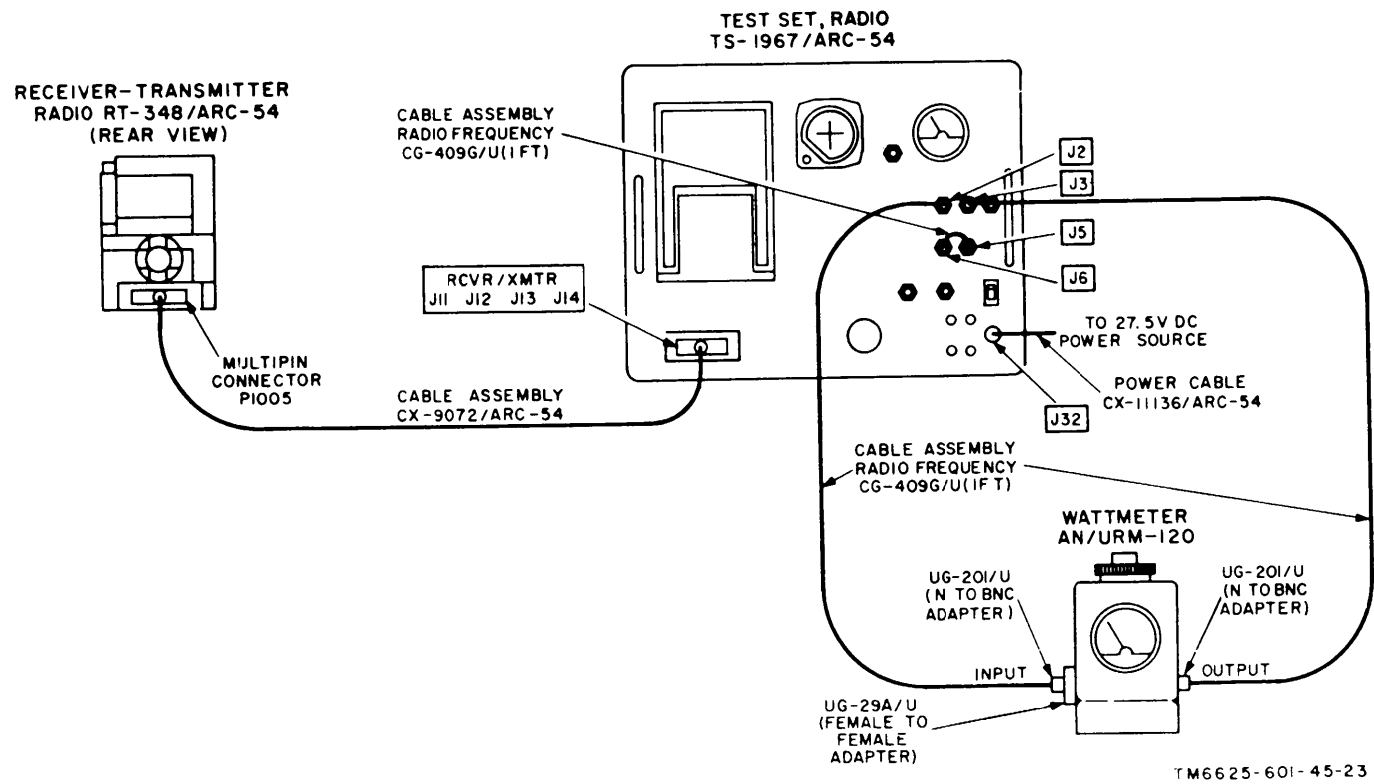

Figure 3-3. Rf power meter adjustment bench test setup.
(1) Set FREQUENCY SELECTOR-MC switch S3 to 40 position.
(2) Set FREQUENCY SELECTOR-MC switch S4 to 0 position.
(3) Set FREQUENCY SELECTOR-MC switch S5 to .00 position.
(4) Set TEST FUNCTION SELECTOR switch S10 to RADIO position.
(5) Set TEST FUNCTION SELECTOR switch S11 to TEST SET position.
(6) Set RCVR/XMTR FUNCTION switch S9 to PTT position.
(7) Set XMIT-RCVR-PTT switch S6 to RCVR position.
(8) Set POWER/VSWR switch S2 to FWD position.
(9) Set POWER circuit breaker to ON position.
(10) Switches not listed may be set to any position.
d. Connect the RT-348/ARC-54 and Wattmeter AN/URM-120 to the test set as shown in figure 3-3.
f. Adjust potentiometer R1 (fig. 3-3) until the reading on RF POWER meter M1 is equal to the reading on the AN/URM-120 (approximately 10 watts).